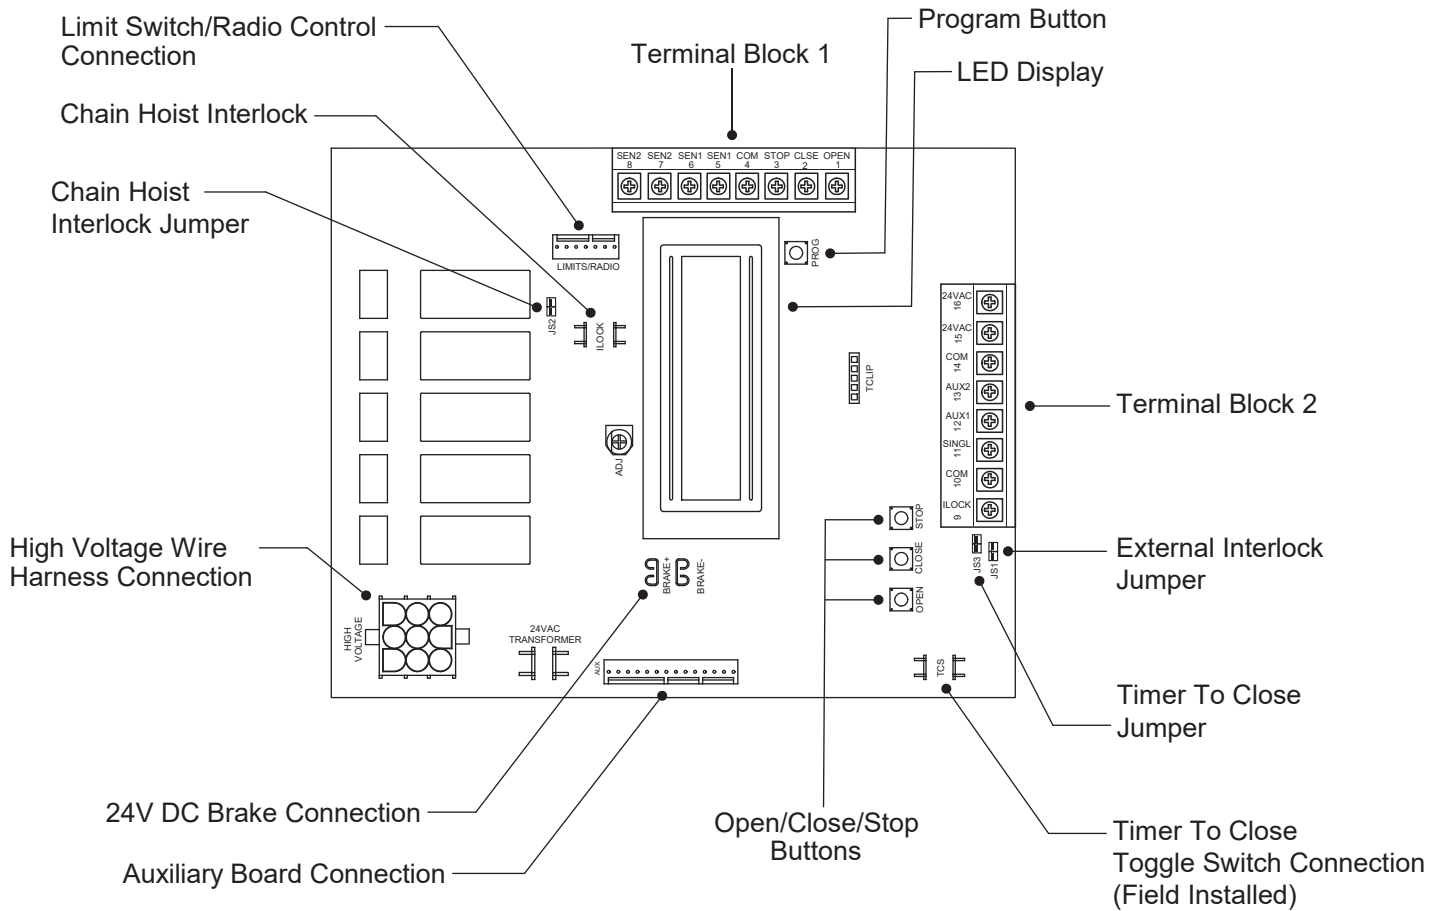

Fig. 9
1. To start the program mode, locate the program and stop button on the logic board (see figure 9), press and hold both program and stop buttons for 5 seconds.